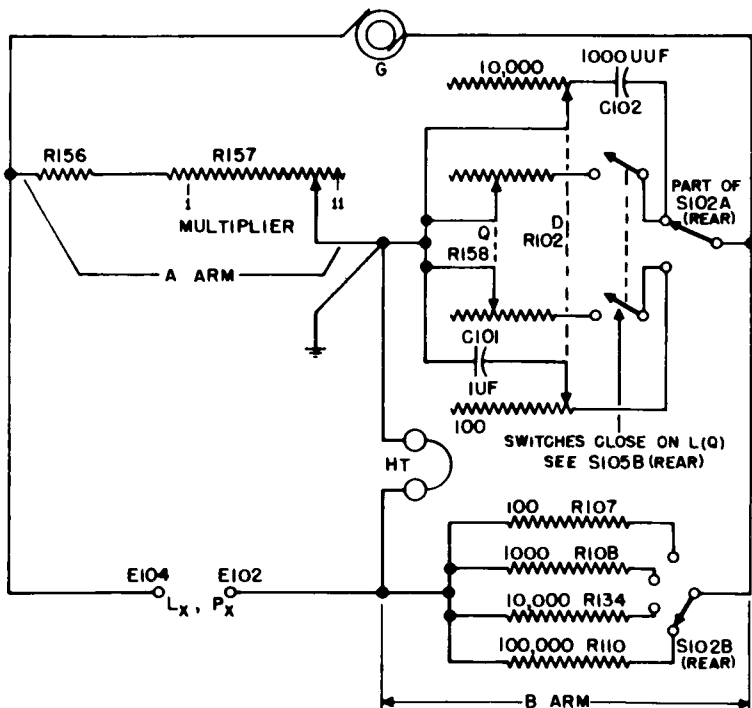

Figure 4-11. Inductance Bridge, Measuring Circuit
d. Comparison of equation (3) of Figure 4-9 with equation (1) of Figure 4-10 shows that the balance, for inductance, is the same for either circuit. This permits use of the same markings on the RANGE SWITCH for both the L(D) and L(Q) settings of the FUNCTION SWITCH. The simplified and combined circuit of Figure 4-11 shows that the only change is substitution of the shunt control R158 for the series control R102. The electrical switching is completed by a mechanical interlock between the D and Q dials necessitating that either must be returned to its initial position before the other can be turned appreciably.